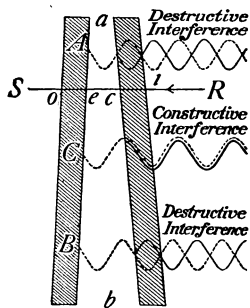

FIG. 410.—Illustrating the interference of light by a thin film of air.
bands. The explanation of this phenomenon according to the wave theory is as follows: The two sheets of glass, although tightly pressed together, are separated in most places by a thin wedge of air (see Fig. 410), which represents in an exaggerated form the bending of the plates when pressed by the clamp. Several waves are represented as coming from the right and entering the glass. Now the wave moving from *R* to the plates has some of its light reflected from each glass surface. Consider the two portions of the wave reflected at each of the surfaces between the plates, *i.e.*, from the two surfaces of the wedge of air. If the portion of the wave reflected from the second surface of the air wedge combines with that reflected from the first surface, in the *same phase* as at *C*, the two reflected waves strengthen each other. While if the two reflected portions of the wave meet in opposite phases as at *A* and *B*, a decrease or a complete extinction of the light results. This is called *interference*. If light of one wave length is used, as red light, the regions of reinforcement and interference are shown by red and dark rings, while if white light is used, the ring where red light interferes, yields its complementary color, greenish blue. Where interference of greenish blue occurs, red is found, etc. Many phenomena are due to interference, such as (A) the color of thin films of oil on water, where the portions of light reflected from the two surfaces of the oil film interfere resulting in the production of color; (B) the color of soap bubbles. When first formed, soap-bubble films are not thin enough to show interference well, but as the bubbles increase in size or become thinner on standing, the conditions for interference are reached and, as the film becomes thinner, a regular succession of colors is noticed.